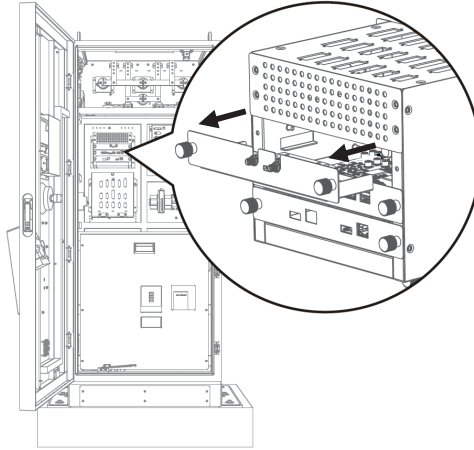

Figure 37. 4G/Wi-Fi Module Access
1) Pull out the top tray from the CSU box to access the 4G/Wi-Fi module inside the cabinet. See Figure 37.